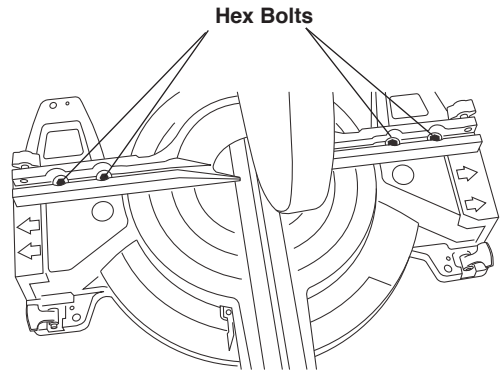

Figure 10. Fence Adjustment
- c. Use multi purpose tool (supplied with model 4410 only) or use a 7/16" socket and loosen four (4) hex bolts behind fence (Figure 10).